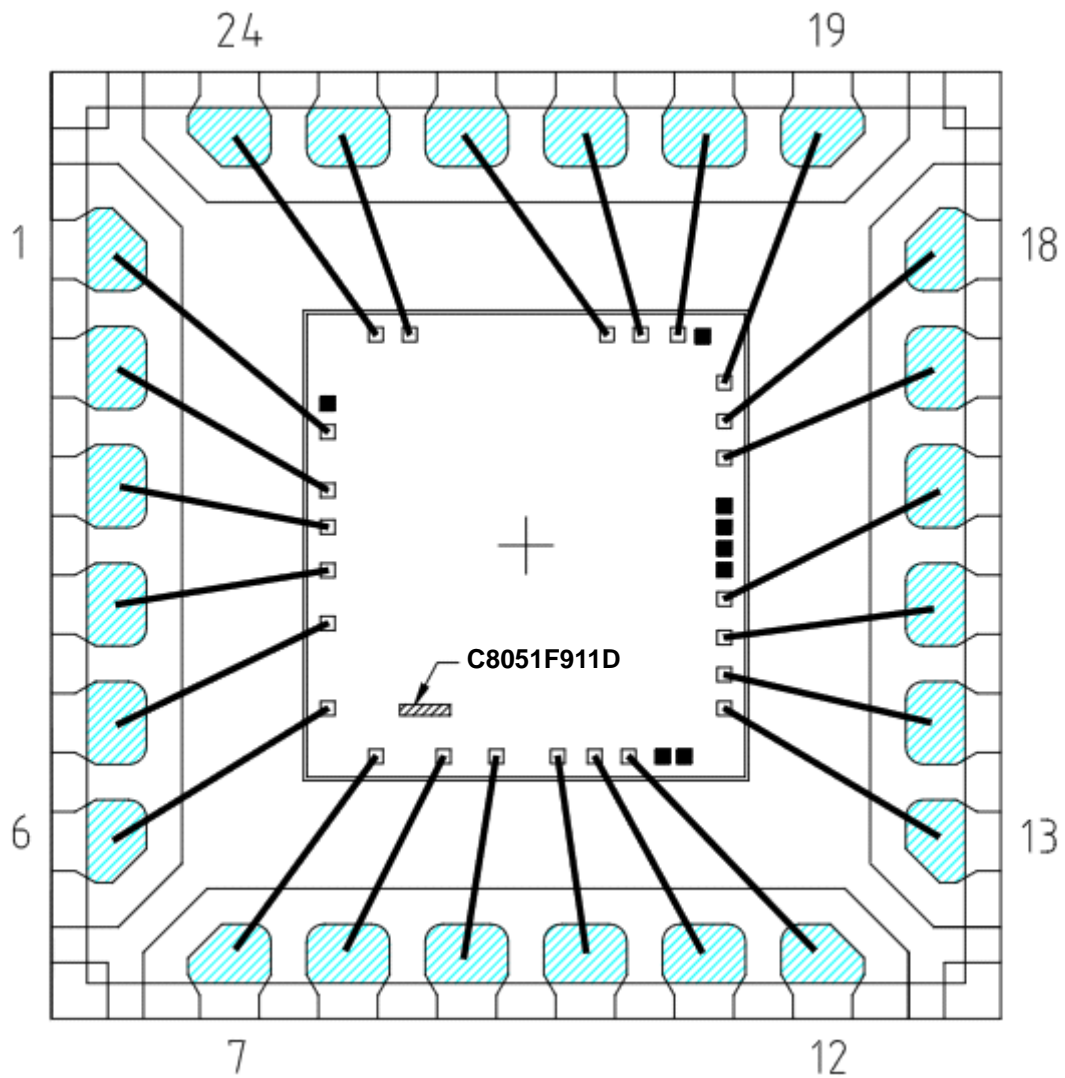

Figure 3.1. Die Bonding (QFN-24)
- Updated label in Figure 3.1 on page 8 to read “C8051F911D”.
- Added “5. Failure Analysis (FA) Guidelines” on page 11.